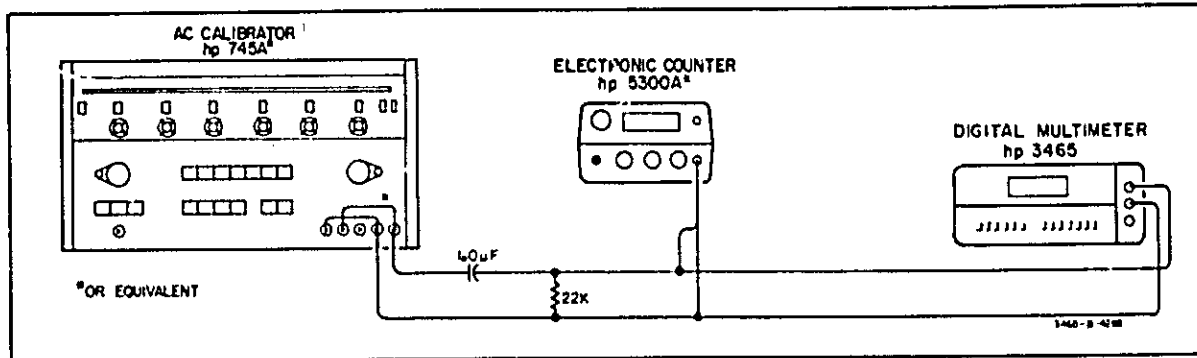

Figure 5-5. AC Normal-Mode Rejection Test.
- Connect the test equipment as shown in Figure 5-5. Do not connect the Multimeter at this time.